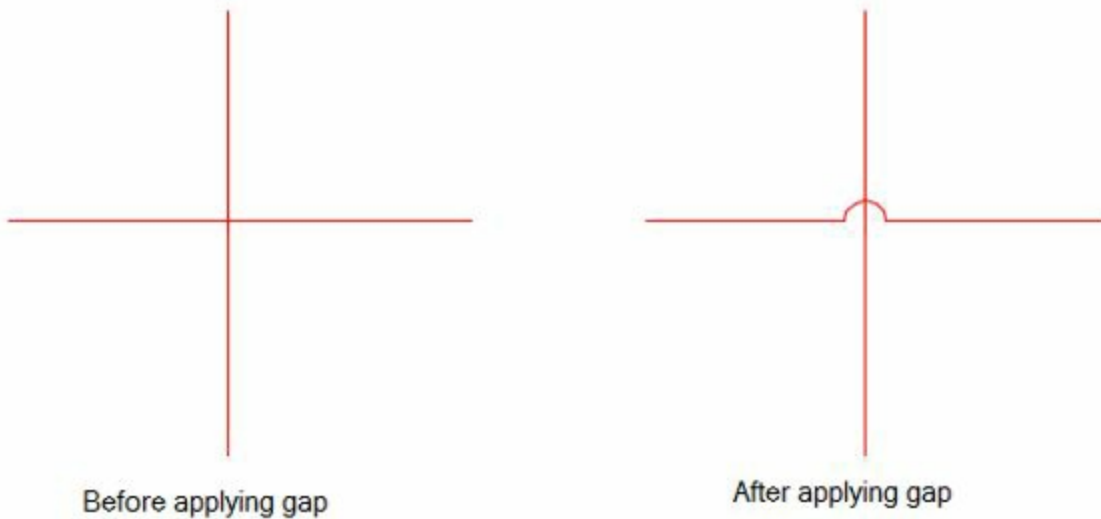

*Figure-6. Components interconnected*
- Select the second component. The wire will be created connecting both the components; refer to Figure-6.